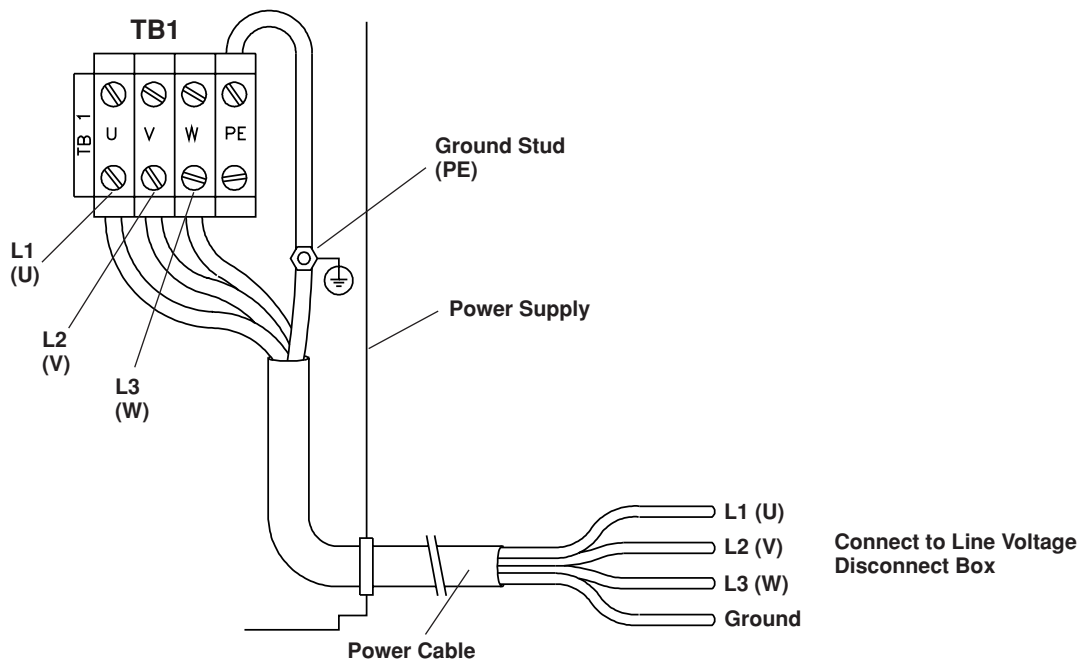

Figure 3-4 Power Supply Power Cable Connections
1. Insert the power cable through the strain relief at the lower right rear of the power supply. Connect the power cable leads to **TB1** on the rear center panel of the right side (see Figure 3-4).
2. Connect the power leads to the **L1 (U)**, **L2 (V)**, and **L3 (W)** terminals of **TB1**. Make sure that all electrical connections are tight to avoid excessive heating.